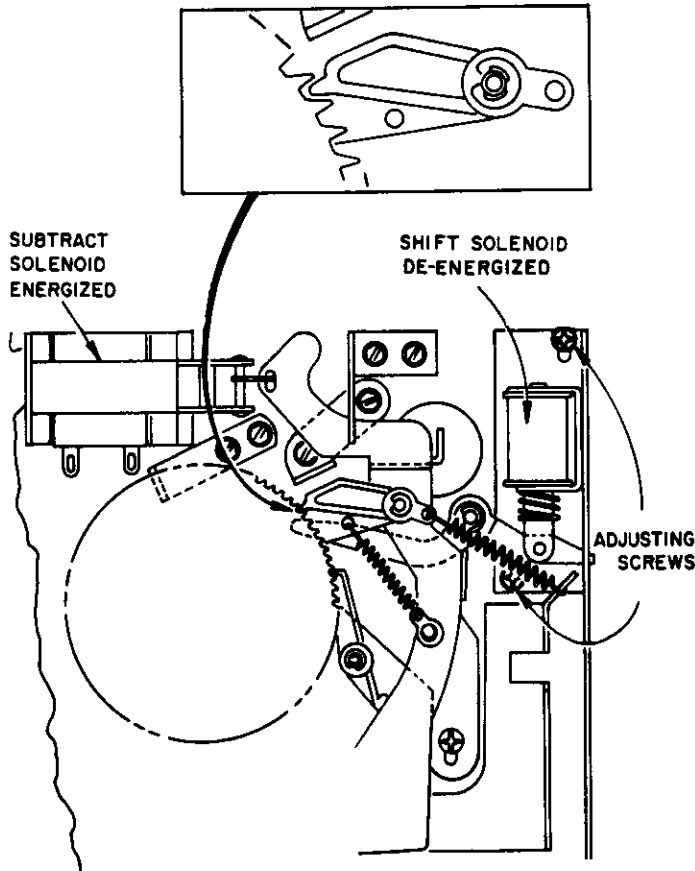

Figure 8. Subtract Solenoid Adjustment Detail.
1. Refer to Figure 8. Adjust the subtract solenoid and the shift solenoid bracket so that the subtract pawl enters the teeth in the credit ratchet wheel without striking either side and subtracts one credit when the subtract solenoid is energized.